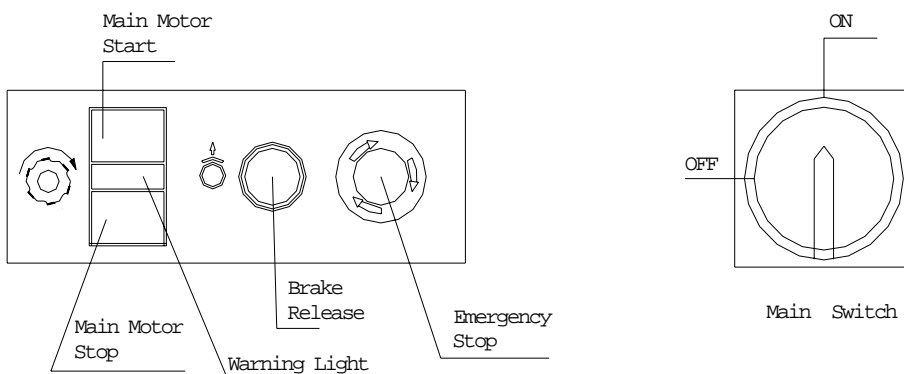

Figure 3
5. Open the electrical connect box on the rear side of the machine (figure3) by loosening the screws.
9. Test the rotation of the cutter head. Turn on the main power switch and then the main motor switch (figure 3). The pulley on the main motor should rotate counterclockwise.
10. If it rotates clockwise, stop the machine with the red stop button (Figure 3). Disconnect machine from power source, and exchange leaks L1 and L3
3. Position a finish-stock on the out feed table. Extend the finish-stock over the middle of the cutter head as shown in Figure 3.